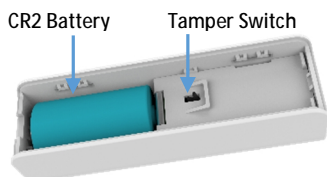

Figure 3
4. If network is not found after 30 seconds, the sensor will go into sleep mode. To wake the sensor again, you need to use magnet or tamper (Figure 3) to trigger a Adding (Inclusion) process, and then sensor will repeat steps from 3 to 4.